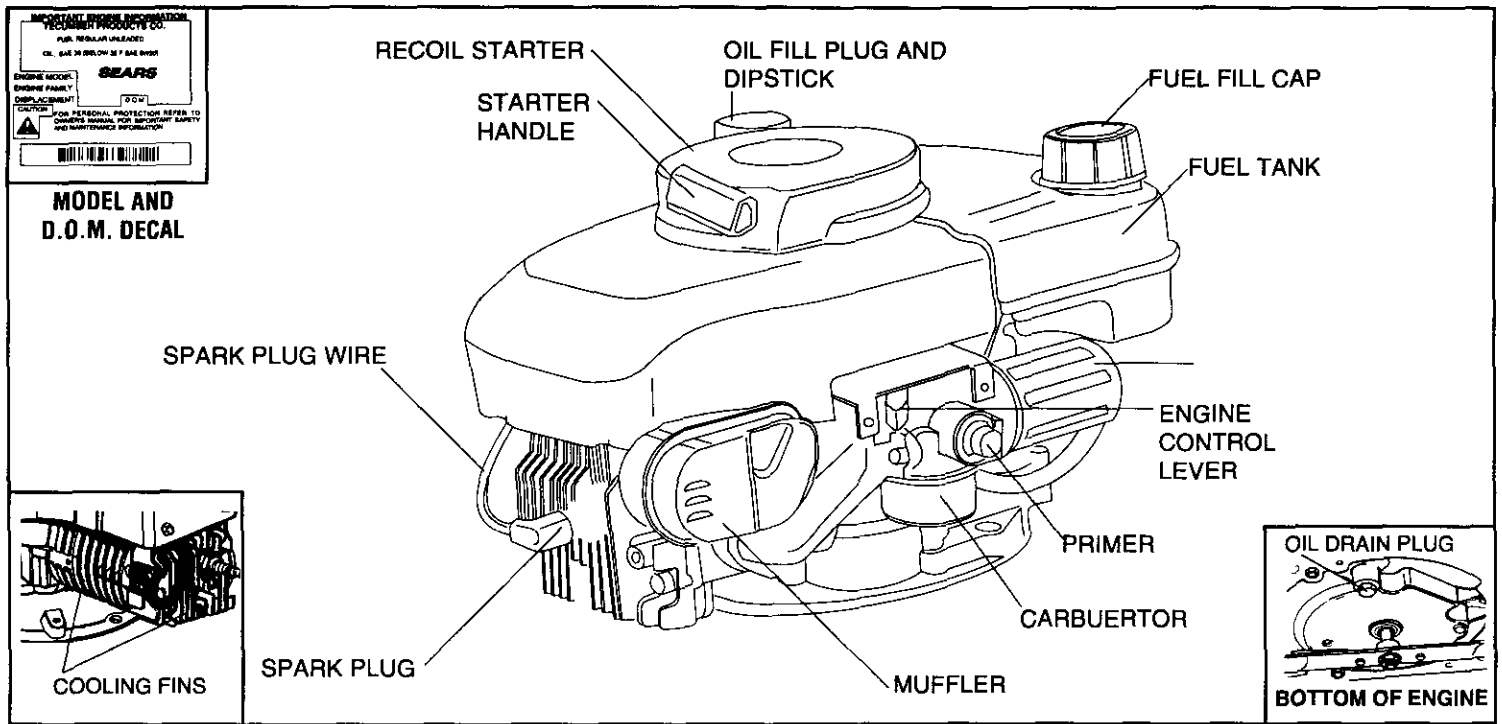

Figure 1
- B. Clean area around oil fill plug (see Figure 1).
⑤ CHECK THE FOLLOWING:
- B. Be sure spark plug wire is attached to spark plug (see Figure 1).
① Move engine control (see Figure 1) to HI Position.
② START ENGINE:
ENGINE SPEED: Engine speed is controlled by the engine control (see Figure 1). Engine control should be in HI position for high grass conditions and for most efficient bagging in heavy grass conditions, and in LOW position for light grass, trimming and for fuel economy.
C. Remove oil drain plug and oil fill plug to drain oil (see Figure 1).